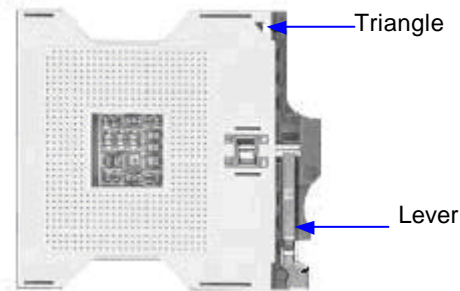

Figure 5: mPGA604 Socket
2. Insert the CPU in the socket, making sure that pin 1 of the CPU aligns with pin 1 of the socket (both corners are marked with a triangle - see Figure 5. When using only one CPU, install it into CPU0. CPU1 is automatically disabled if only one CPU is used).